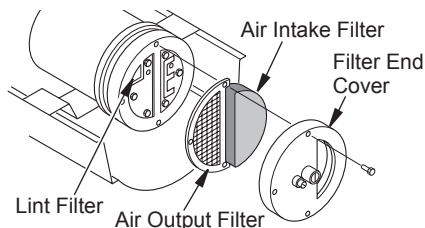
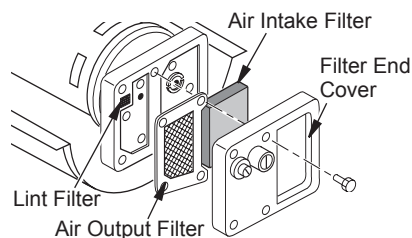

Figure 14 - Air Output, Air Intake, and Lint Filters, 40/50/55/60/70 Models Only
Figure 15 - Air Output, Air Intake, and Lint Filters, 110/115/155/165/200 Models Only
2. Remove filter end cover screws using 5/16" nut-driver (see Figure 14 or Figure 15, page 10).